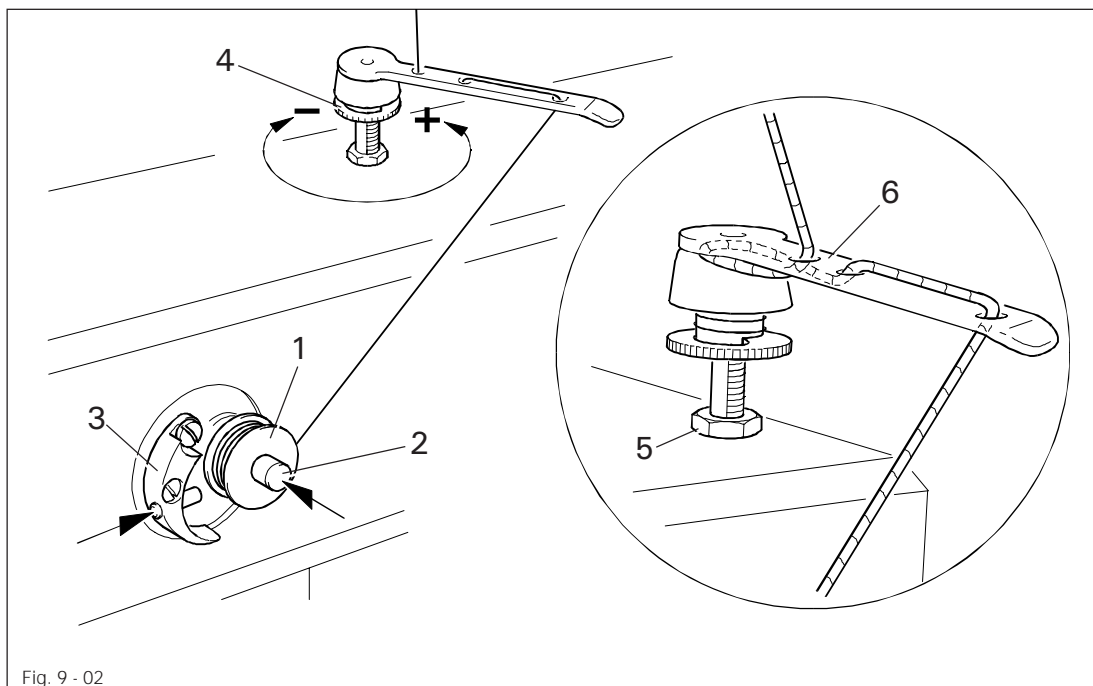

Fig. 9 - 02
- Thread the bobbin in accordance with Fig. 9 - 02 and wind it clockwise around bobbin 1 a few times.